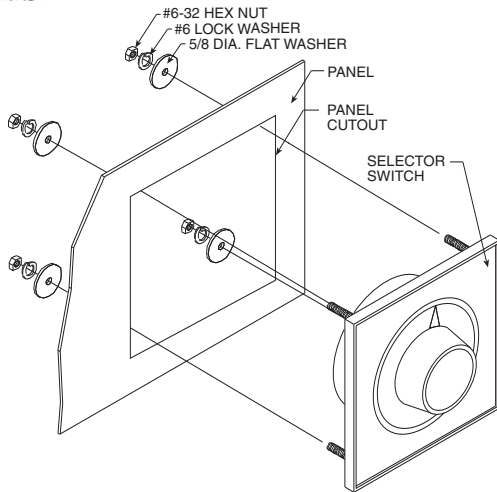

Figure 3-1. 1/4 DIN Panel Mounting
3. Apply the hardware provided in the order shown in Figure 3-1.